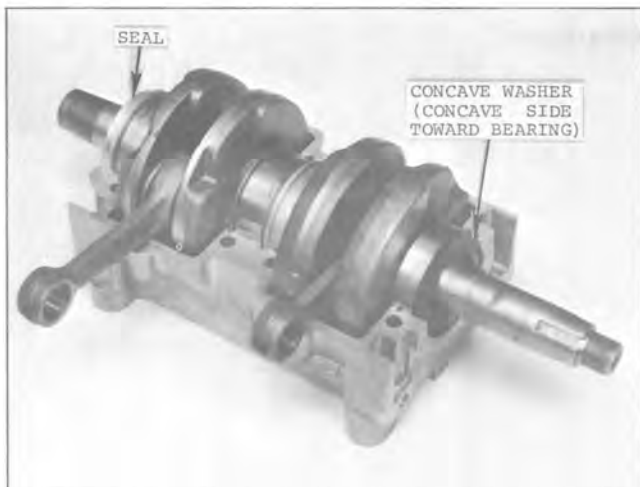

Fig. 12 — Crankshaft Assembly Installed
13. Install seal and concave washer on crankshaft and lower it into crankcase using sealing compound on bearing surfaces. See Fig. 12.